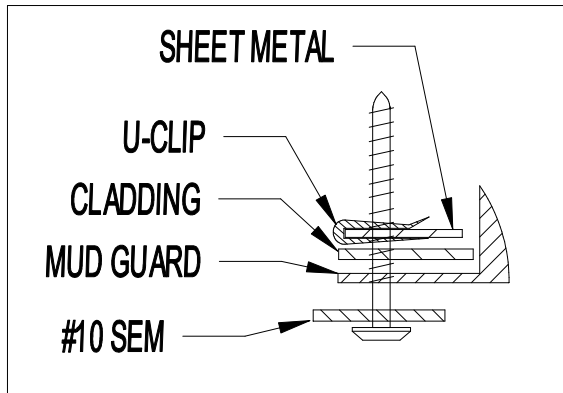

Figure 2
2. Install u-clips over the sheet metal at locations A, B, and C (Figure 2).